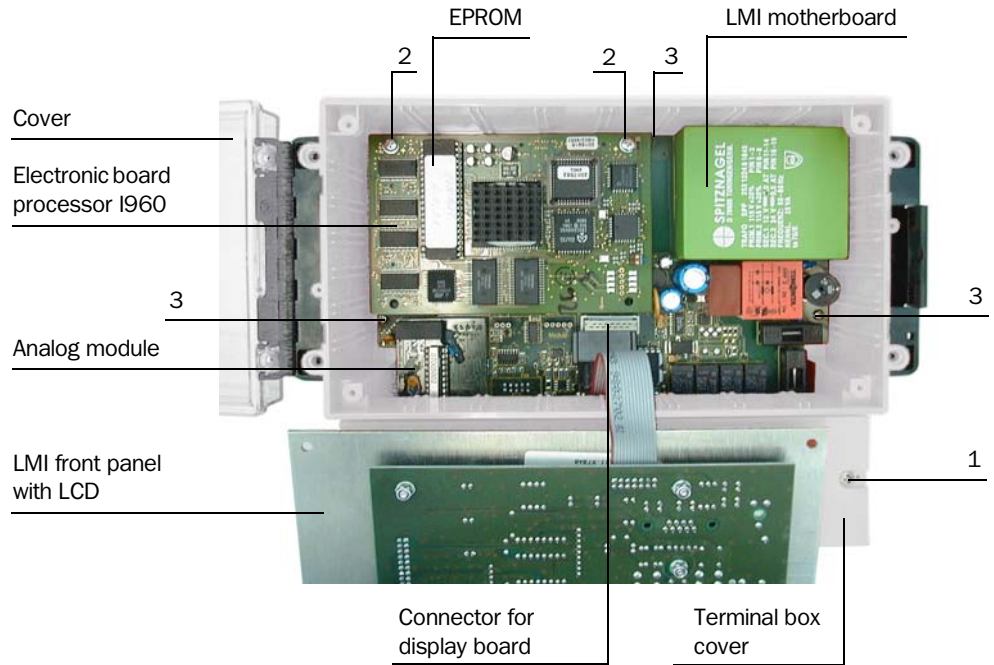
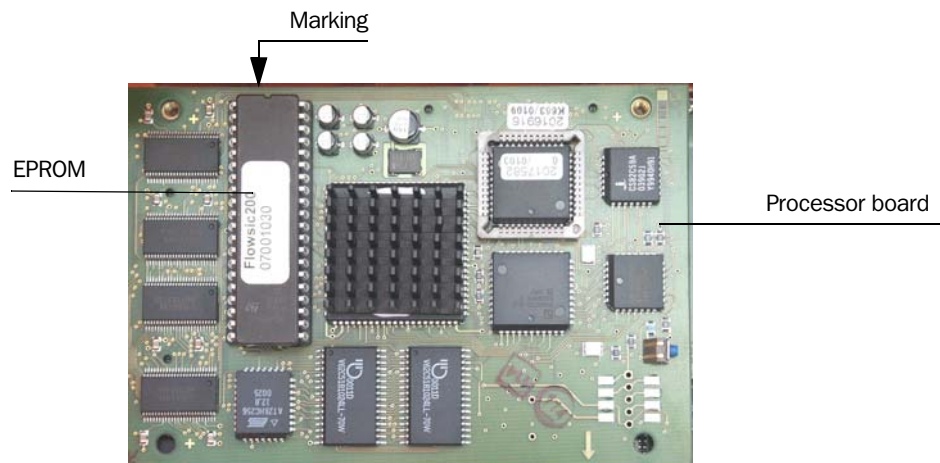

Fig. 7.1: Electronic boards in the evaluation unit
Fig. 7.2: Processor board with EPROM
Any defects that occur (such as overvoltage caused by lightening, impermissible voltages/ currents on the analog modules, and display problems) must be corrected by replacing the defective electronic board. **Fig. 7.1** shows how the electronic boards are arranged and secured.
- ▶ Loosen the 2 screws (2) and carefully remove the electronic board processor I960 from the connectors on the LMI motherboard.
- ▶ Use a suitable tool (such as a screwdriver with a wide blade) to carefully slide the EPROM out of the holder. Connect the EPROM to a new electronic board processor as described in **Fig. 7.2**.
The EPROM is located on the electronic board processor I960 that is connected to the LMI motherboard (see **Fig. 7.1**). This EPROM is replaced in the same way as the electronic board processor (**Fig. 7.2**).